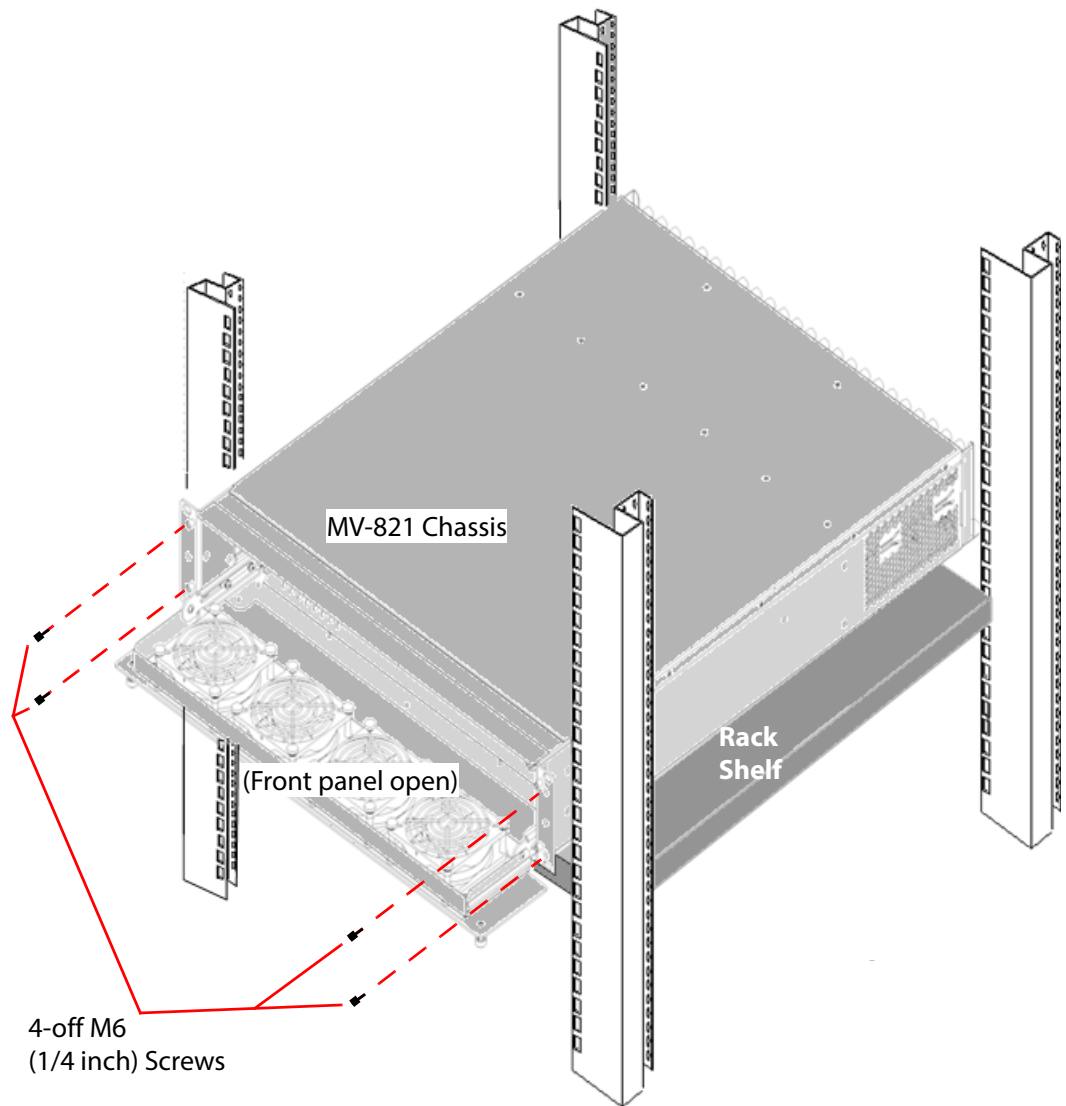

Fig. 3-4: Rack Mounting MV-821 Multiviewer.
- 5) Secure the MV-821 Multiviewer chassis in the rack at each mounting hole using 4-off M6 (1/4 inch) screws. See Figure 3-4. (Screws are available from rack suppliers.)